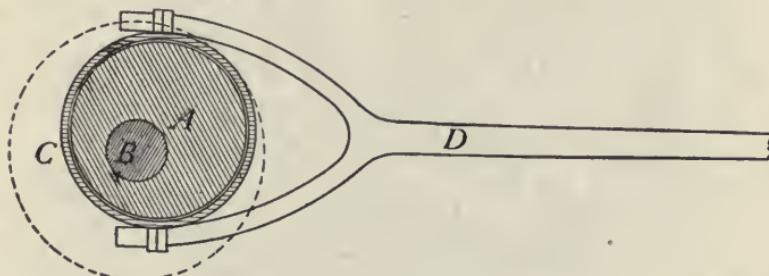

FIG. 163.—An eccentric.
transformed into *rotary* motion, just as in the sewing machine the back-and-forth motion of the treadle produces rotary motion of the large wheel. Upon the shaft of the steam engine is fastened an *eccentric* (see Fig. 163) which
14. An eccentric (Fig. 163), is a round disc mounted a little to one side of its center, *A*, on the engine shaft *B*. A band, *C*, on the circumference of the disc is connected by a rod, *D*, with the slide valve in the steam chest. How is the rotary motion of the shaft changed into a backward and forward motion of the slide valve?